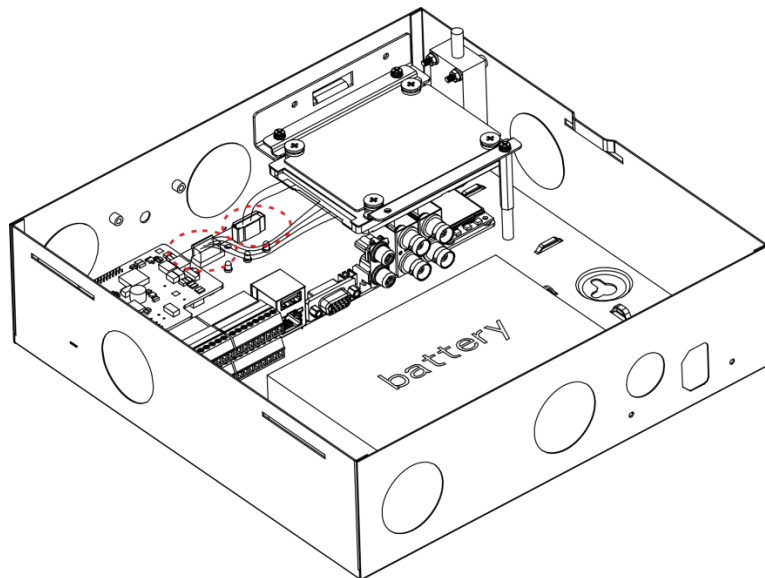

Figure 2-14
Step 4. Insert one end of HDD line into hardware, and insert the other end into HDD power port and data port on controller, see Figure 2-14.